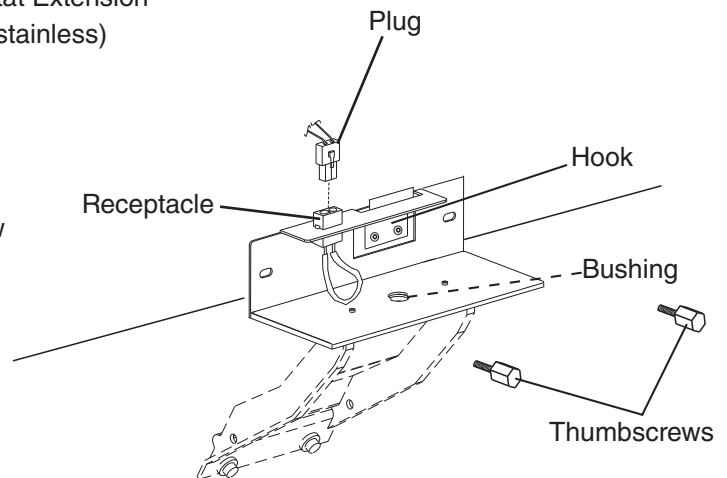

Fig. 4
- f. Insert the plug into the receptacle on the assembly until it locks into place. See Fig. 4.